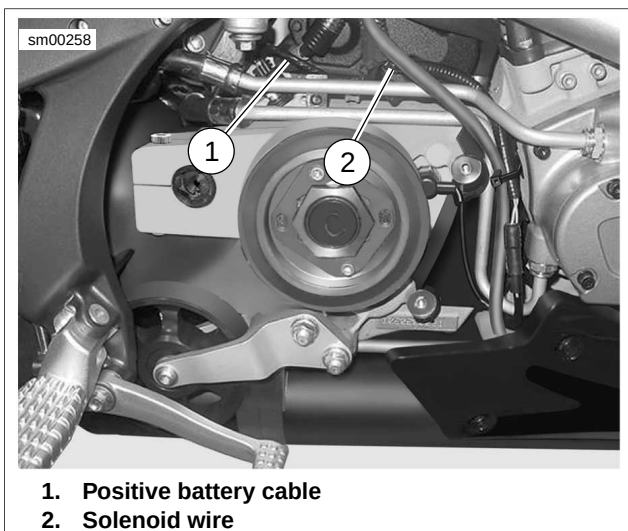

Figure 7-22. Starter Wires (Protective Boot Not Shown)
3. See Figure 7-22. Remove protective rubber boot from starter fastener. Remove fastener with washer to detach positive battery cable from starter.
- a. See Figure 7-22. First, connect positive battery cable to starter using fastener with washer. Tighten fastener to 60-85 **in-lbs** (7-10 Nm).